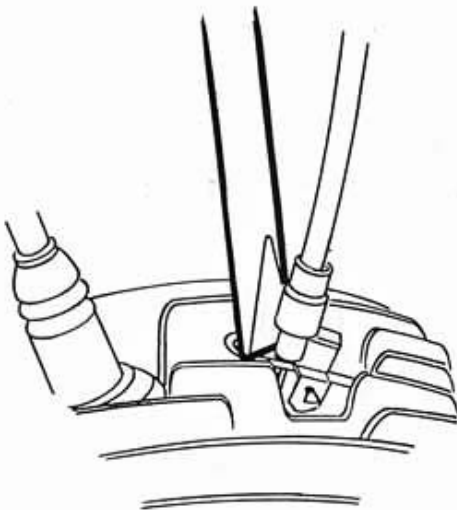

Fig. 1
- Free the decompressor cable nipple using a screwdriver (fig. 1) and disconnect the cable.